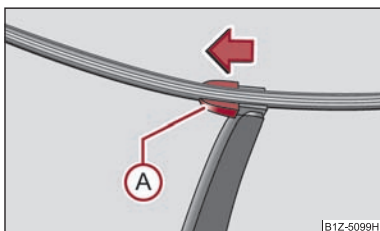

Fig. 45 Wiper blade for rear window
- Fold windscreen wiper arm out from the windscreen and position the wiper blade at right angles to the wiper arm ⇒ fig. 45.
- With the other hand unlock the locking button (A) in the direction of arrow and remove the wiper blade.